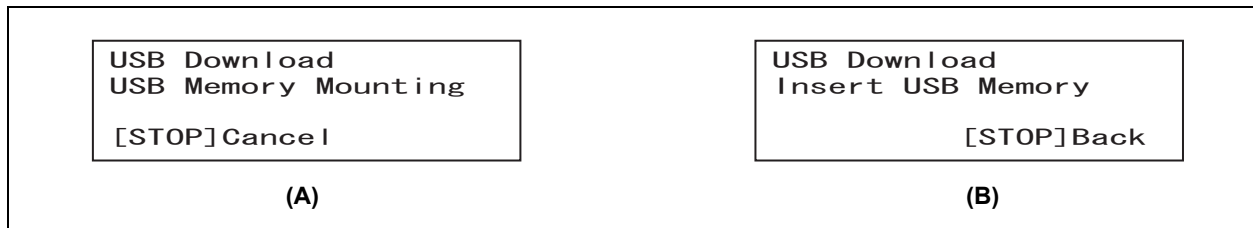

Figure 7.35
- 6 Select "Leak Test Log", "Error Log", or "Error Log" by operating the ▲ and ▼ buttons and press the ENTER button. The screen shown in Figure 7.35 (A) is displayed. If a portable memory is not connected, the screen shown in Figure 7.35 (B) is displayed. Insert the portable memory into the portable memory port until it stops. When the connection of portable memory has been confirmed, the message shown in Figure 7.35 (A) is displayed, and downloading start automatically.